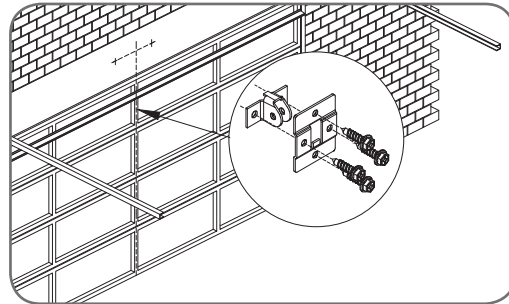

fig 22
The door bracket comes in two parts. The bottom plate with two mounting holes is used on its own for one piece doors. For sectional doors, the top plate is placed over the bottom plate and is fixed with four (4) screws (**Fig. 22**).
- Mount the door bracket, or bracket assembly, on the door's centre line one-third down the top panel (**Fig. 22**) using M6 or equivalent screws (not supplied),